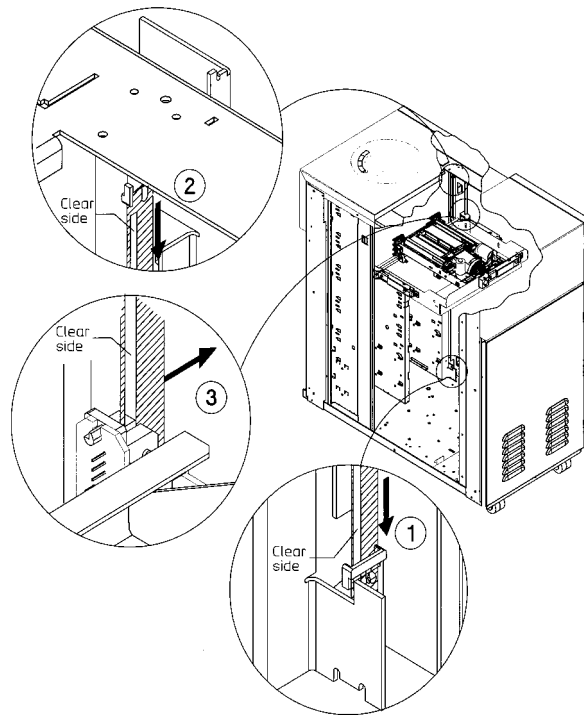

Figure 37: Releasing the Ends of the Vertical Encoder Strip
2. Release the lower end of the vertical encoder strip (see #1 on Figure 37).
3. Unhook the top of the encoder strip from the spring and remove (Figure 37).